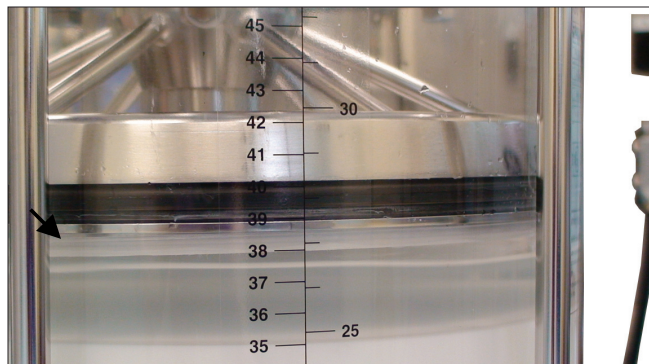

Fig. 3. A 2–3 cm buffer layer forms on top of the media bed.
- Within 5 min, a 2–3 cm buffer layer will develop over the settling media (Figure 3). Lower the top adaptor into the liquid and activate the seal